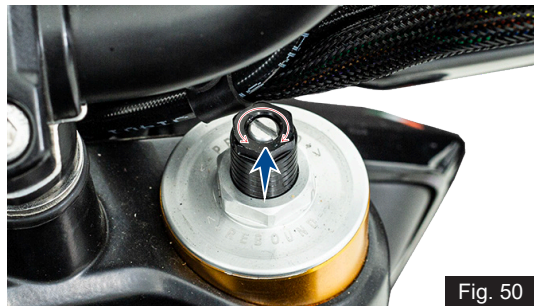

Fig. 50
- To increase the compression damping force, turn the adjuster screw in clockwise and to reduce the compression damping force, turn the adjuster screw in anti-clockwise as shown in the figure (ref. Fig. 50).